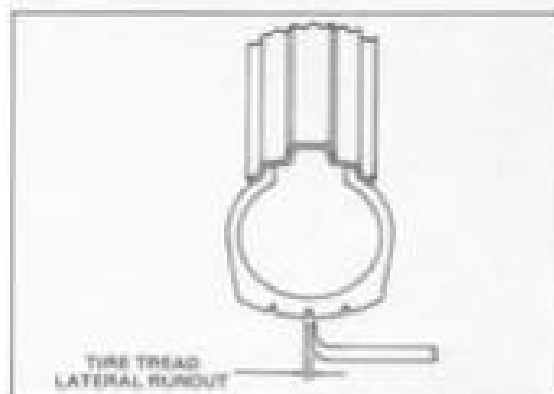

Figure 2-20. Checking Tire Radial Runout
1. Check runout by turning wheel on axle, measuring tread runout (see Figure 2-20).